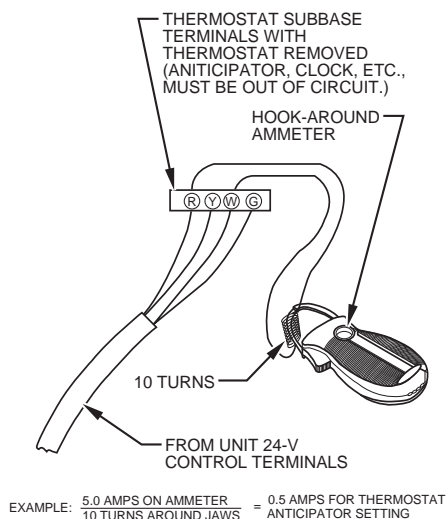

Fig. 69 – Amp. Draw Check With Ammeter
- (2.) Connect an amp. meter (see Fig. 69) across the R and W/W1 subbase terminals or R and W/W1 wires at wall.